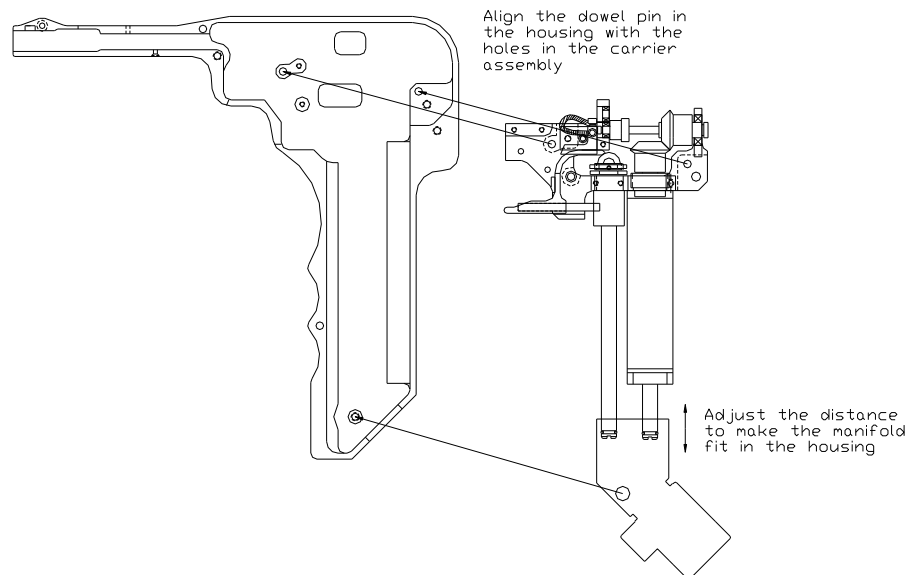

Figure 1.
4. On the Bin Card, record the revision level (if applicable) and the Purchase Order (PO) number or Stock Order (SO) number for the parts that were obtained.
- b. Align the holes in the carrier assembly with the dowel pins inside the right housing sub-assembly and slide the manifold along the nipples until the manifold fits over the screw boss and cut-out in the housing (see Figure 1).